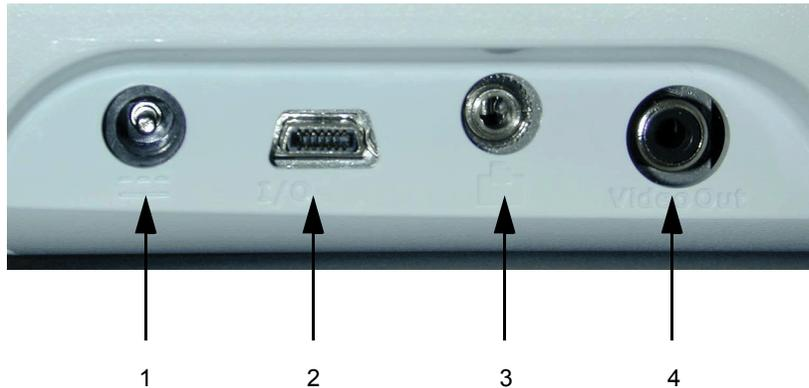

Figure 4.3 System Connections
- 3 Connect the AC power adapter to the system using the upper, left connector on the left side of the system. (Figure 4.3).